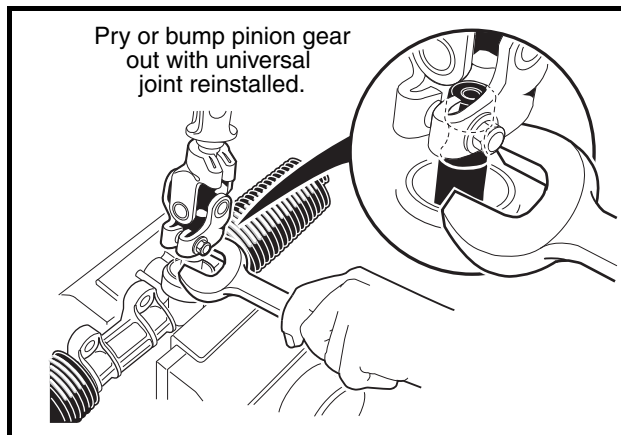

Figure 7-9 Remove Pinion from Housing
10. Install the universal joint onto the pinion and place a large open end wrench under the universal joint (Figure 7-9, Page 7-10). Use the wrench as a lever to pull the pinion from the housing.